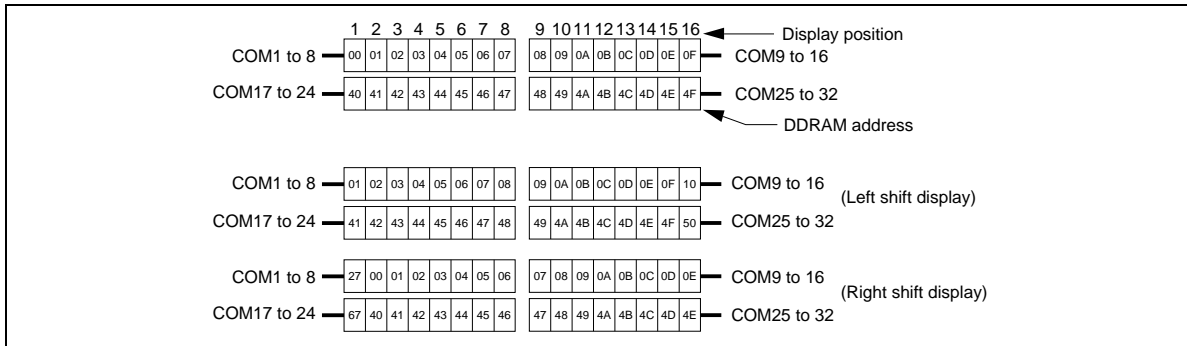
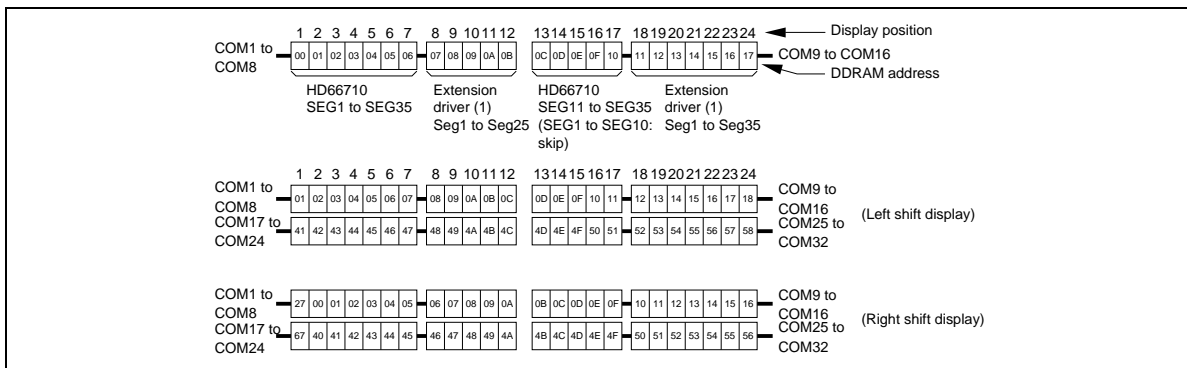

Figure 4 2-line by 16-Character Display Example
Figure 5 2-Line by 24 Character Display Example
- Case 1: The first line is displayed from COM1 to COM16, and the second line is displayed from COM17 to COM32. Care is required because the end address of the first line and the start address of the second line are not consecutive. For example, the case is shown in Figure 5 where 16 × 2-line display is performed using the HD66710. When a display shift operation is performed, the DDRAM address shifts. See Figure 4.
- Case 2: Figure 5 shows the case where the EXT pin is fixed to high, the HD66710 and the 40-output extension driver are used to extend the number of display characters. In this case, the start address from COM9 to COM16 of the HD66710 is 0AH, and that from COM25 to COM32 of the HD66710 is 4AH. To display 24 characters, the addresses starting at SEG11 should be used. When a display shift operation is performed, the DDRAM address shifts. See Figure 5.